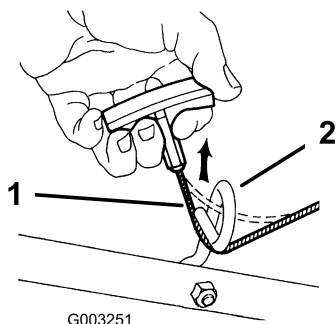

Figure 4
1. Pull the starter rope through the rope guide on the handle (Figure 4).